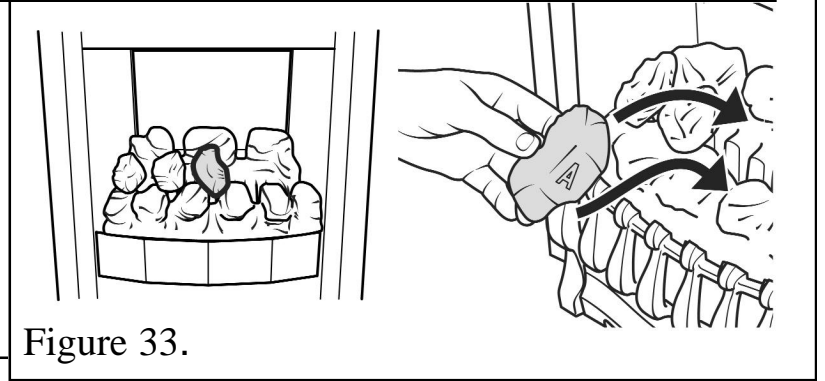

Figure 33.
5. Place a type “A” coal between the front and rear base coals with the letter “A” upright. The top of the coal should rest against the centre coal of the rear base coal as shown in figure 33.